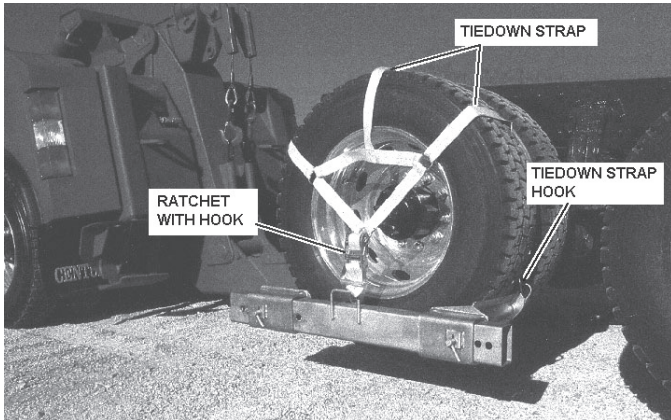

FIGURE 4A.12
- (j) Attach tiedown strap hooks to outer crosstube and tire support and place strap over tire as shown in Figure 4A.12.
- (k) Release tiedown strap ratchet and pull out sufficient length of strap to insert ratchet hook into hole in the adjustment tube. Refer to Figure 4A.12.